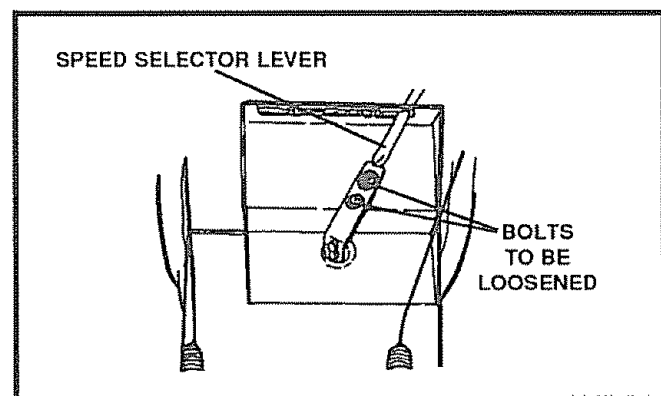

FIG. 29B
- Loosen bolts in speed selector lever (See Fig. 29B)